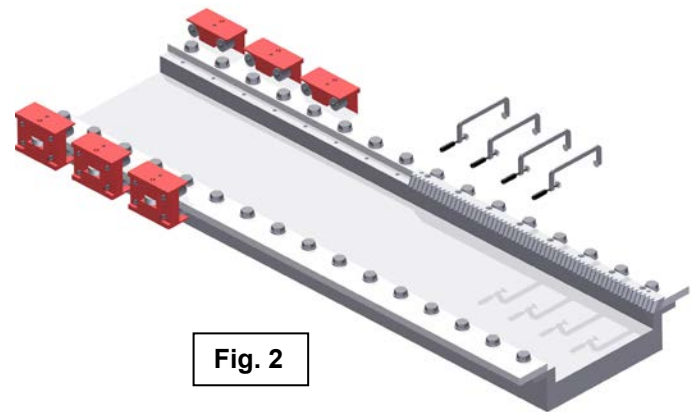

Fig. 2
- The previous steps must be repeated for the remaining cylinder screws. The screw clamps can be undone. (Fig. 2)